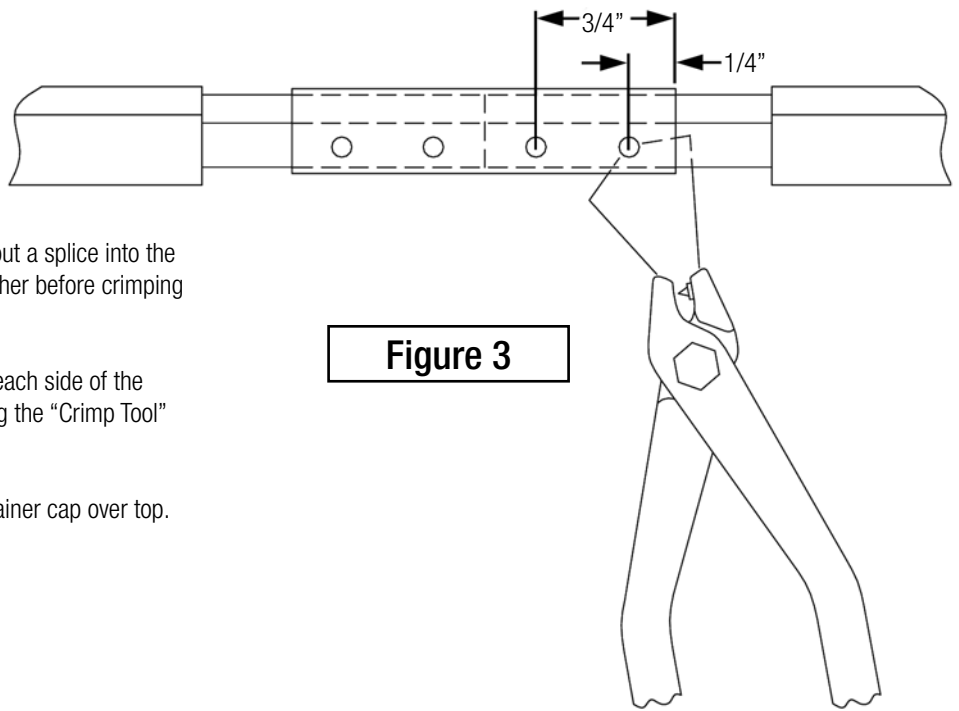

Figure 3
2.2.1.3 To secure the splice, crimp the bottom of each side of the splice at 1/4" and again at 3/4" from the end using the "Crimp Tool" (see Figure 3).